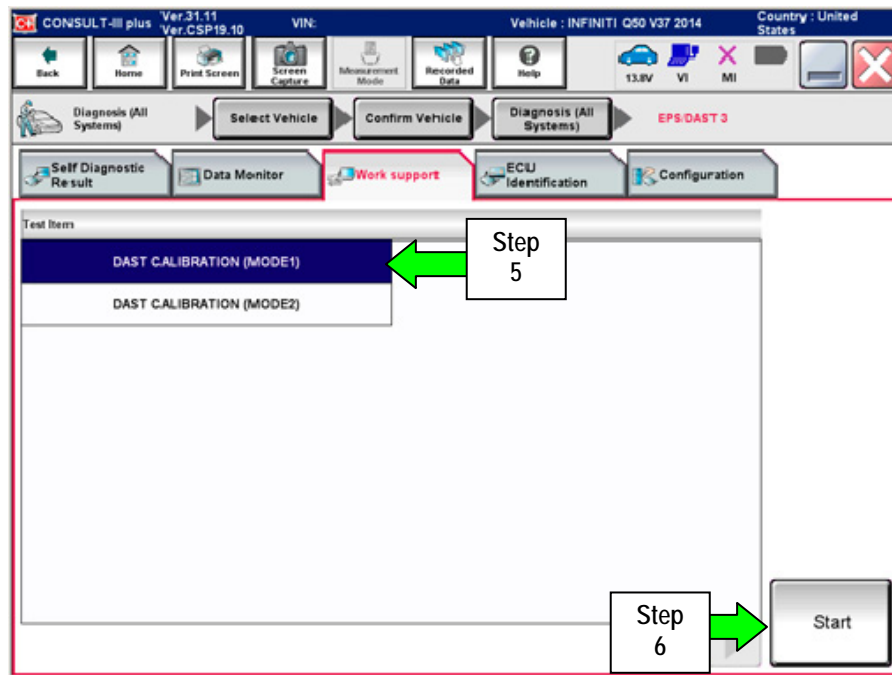

Figure 24
5. On the C-III plus screen, select **Diagnosis (All Systems)**. After system call has completed, select **EPS/DAST 3 >> Work support >> DAST CALIBRATION (MODE1)**. See Figure 24.